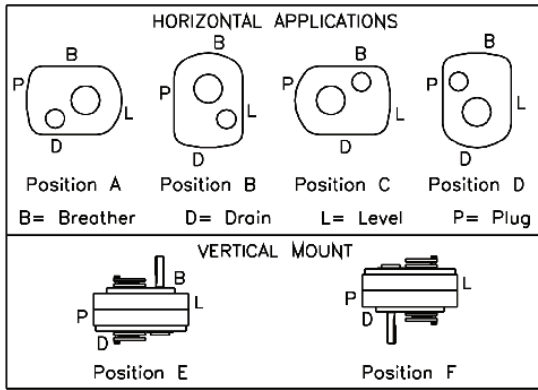

Figure 1 - Mounting Positions
2. Determine the running positions of the reducer. (See Fig. 1)
Vertical Installations - Install the filter/ventilation plug in the hole provided in the upper face of the reducer housing. If space is restricted on the upper face, install the vent in the highest hole on the side of the reducer per Figure 1 using the optional vertical vent kit. Install a plug in the hole in the bottom face of the reducer. Do not use this hole for the magnetic drain plug. Install the magnetic drain plug in the lowest hole on the sides of the reducer. Of the remaining holes on the sides of the reducer, use the plug in the upper housing half for the minimum oil level plug.
Below 15 RPM output speed, oil level must be adjusted to reach the highest oil level plug. If reducer position is to vary from those shown in Figure 1, either more or less oil may be required. Consult your local representative.
The running position of the reducer in a horizontal application is not limited to the four positions shown in Fig. 1. However, if running position is over 20° in position “B” & “D” or 5° in position “A” & “C”, either way from sketches, the oil level plug cannot be used safely to check the oil level, unless during the checking, the torque arm is disconnected and the reducer is swung to within 20° for position “B” & “D” or 5° for position “A” & “C” of the positions shown in Fig. 1. Because of the many possible positions of the reducer, it may be necessary or desirable to make special adaptations using the lubrication filling holes furnished along with other standard pipe fittings, stand pipes and oil level gauges as required.
① Oil quantity is approximate. Service with lubricant until oil runs out of oil level hole.
② Refer to Figure 1 for mounting positions.
③ US measure: 1 quart = 32 fluid ounces = .94646 liters.
④ Conversion from quarts rounded values.
⑤ Below 15 RPM output speed, oil level must be adjusted to reach the highest oil level plug. If reducer position is to vary from those shown in Figure 1, either more or less oil may